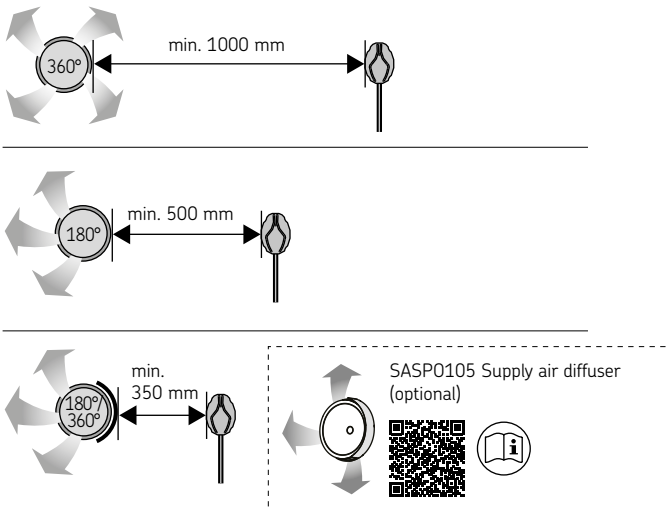

Figure 6. Minimum distance from the supply air vent to the temperature sensor
- **Mechanical ventilation:** The supply air vent must be located in the upper part of the sauna so that it does not interfere with the operation of the temperature sensor. (Figure 6. Minimum distance from the supply air vent to the temperature sensor)